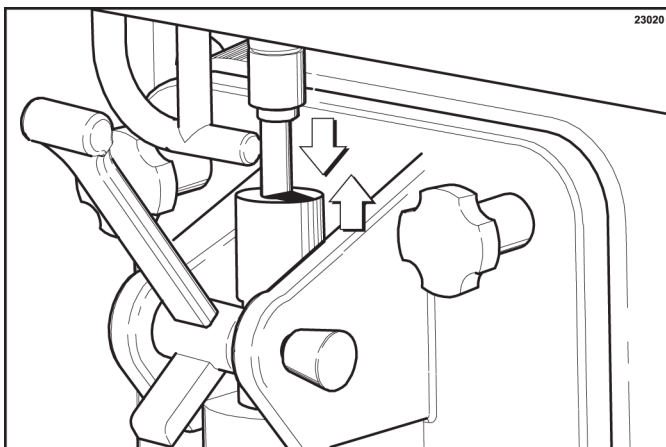

Figure 6-19
18. Raise the locking collar of the spinner coupling and insert the spinner shaft into the cavity of the coupling until the locking collar can drop into the locked position. (See Figure 6-19.)